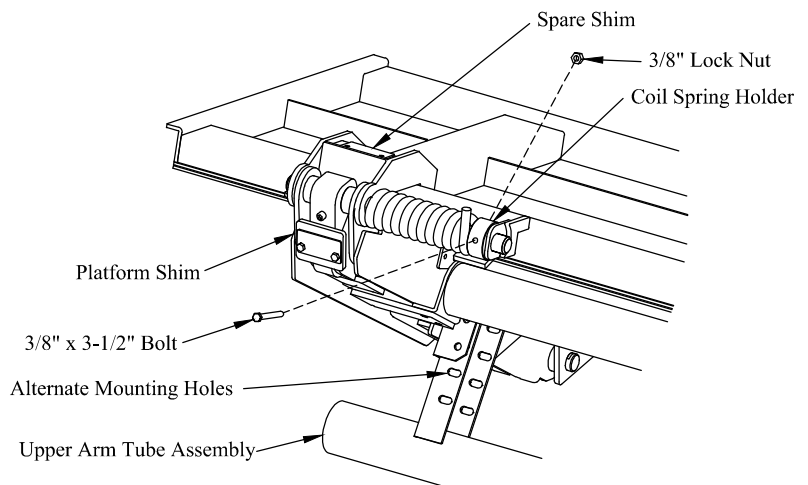

Figure 11: Platform springs and shims.
21. **Move** the upper arm tube assembly to the alternate mounting holes if it contacts the ground. (Figure 11). This may only be required on trucks with low bed heights.
25. **Install** a 3/8" x 3-1/2" hex head bolt and lock nut in each coil spring holder (Figure 11). The platform must be in the stowed position so that the springs will engage as the platform is lowered.